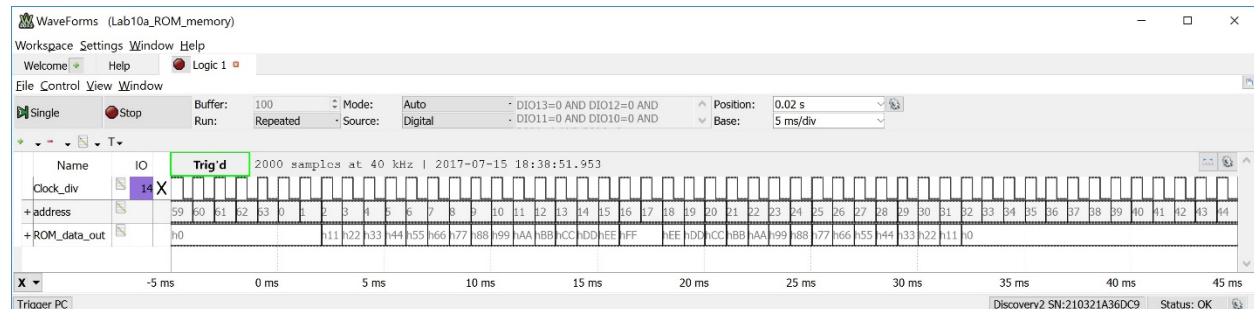

Figure 10.5
On the DE0-CV board, set the frequency of your counter to **1 kHz** using the SW(1) and SW(0) switches. While there are a variety of settings that will need to be configured, go ahead and click on the “Single” button to take a measurement. After the measurement, you will see values for address, ROM_data_out, and Clock_div. Set the Position to 0.02 s and the Base to 5 ms/div. Set the trigger to address="000000". Run the logic analyzer continuously. You should see the contents of the ROM being read out. Your measurement should look like Figure 10.5.